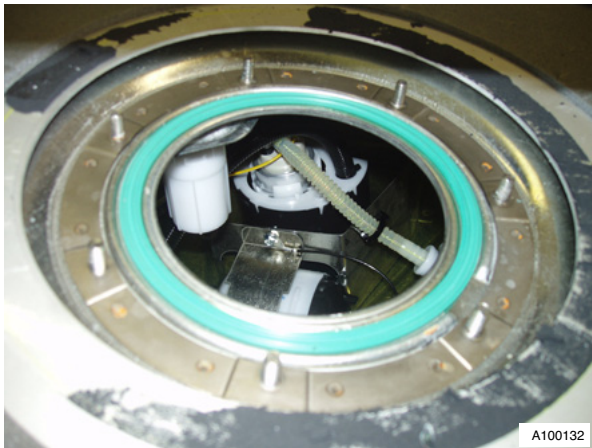

Fig. 3
12. Release vent hose from fuel pump assembly (see Fig. 3).